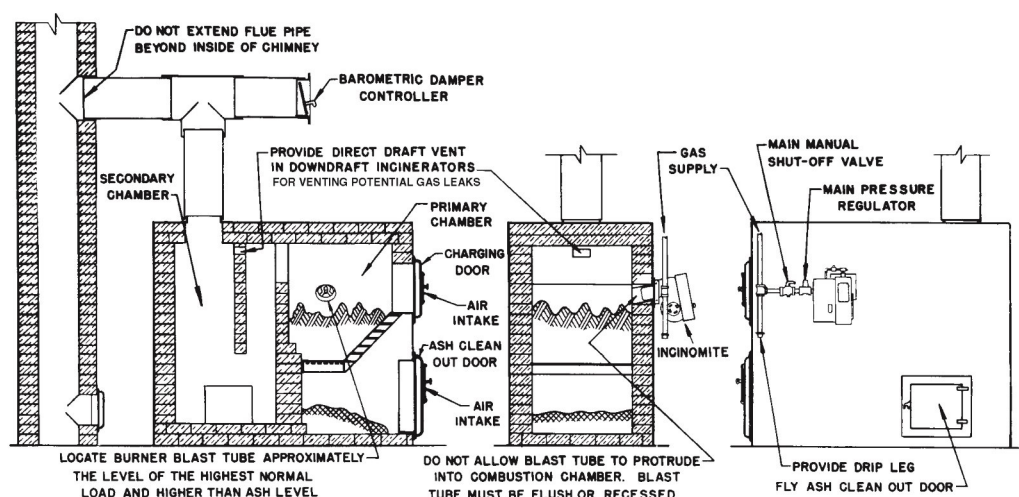

Figure 1 Typical Installation
- To change the Mounting Flange to its alternate position, horizontal or 10° down firing, remove the four (4) screws that attach it to the burner, rotate the flange 180° and reinstall the screws.
**CAUTION:** If the incinerator is of the down draft design, make sure that a direct draft vent opening of approximately 10 square inches has been put through the top of the drop section(s) to provide for the venting of any gas leakage. See Figure 1.
- A suitable Main Gas Pressure Regulator should be installed as shown in Figures 1 or 2. Choose a regulator(s) to adjust the available gas pressure to the pressure shown in SPECIFICATIONS, page 2.